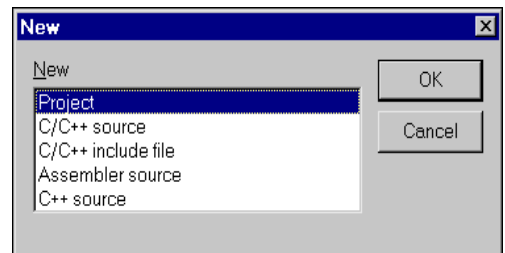

Figure 2-16 New dialog
1. Select **New** from the **File** menu or click the **New** button. The New dialog is displayed (Figure 2-16).